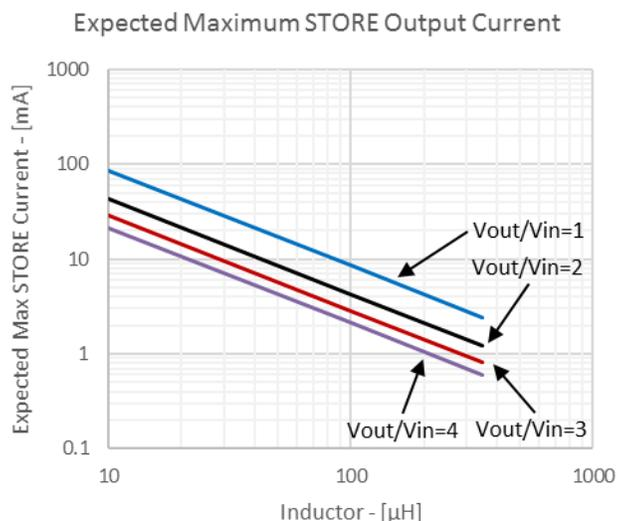

Figure 2.3. Expected Maximum STORE Output Current with 85% Efficiency vs. Inductor Value
- I_{STORE(MAX)} is provided as the Maximum Average STORE Current by [Figure 2.3 Expected Maximum STORE Output Current with 85% Efficiency vs. Inductor Value on page 6 in 2.2.4 Inductor Selection](#).